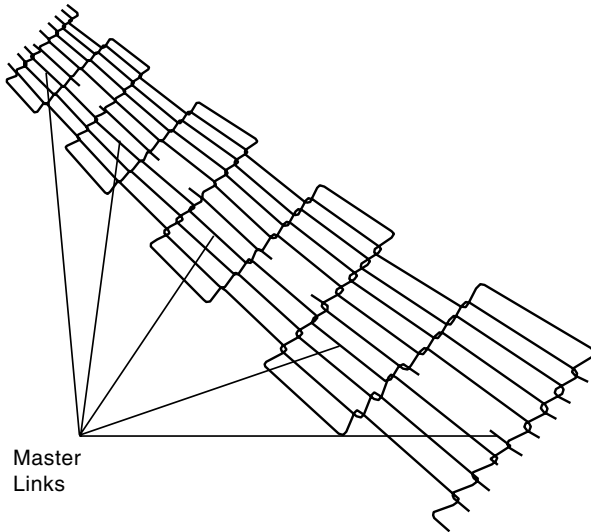

Figure 4-22.
1. Using long nose pliers, an entire link can be removed with the conveyor assembly either in or out of the oven. Position master links at end of conveyor as shown in Figure 4-22.